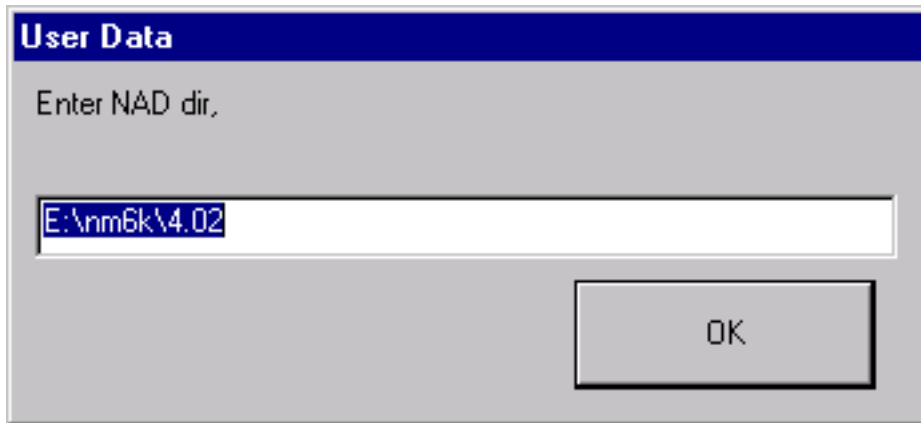

FIGURE 1-15. Source Data Dialog
- 1.37 Touch the 'Enter NAD dir' field. Then using the keyboard connected to the NM6400, type in the source directory as 'E:\NM6K\4.02' and press Enter. See FIGURE 1-15.